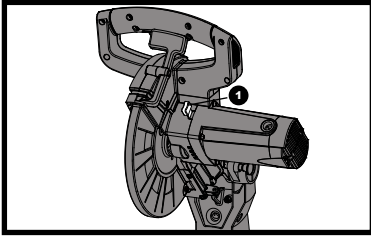

Fig 10
- 2) Allow the cutting head to rise to the upright position. (See fig. 10)
- 4) Locate the arbor lock (1). (See fig. 10)